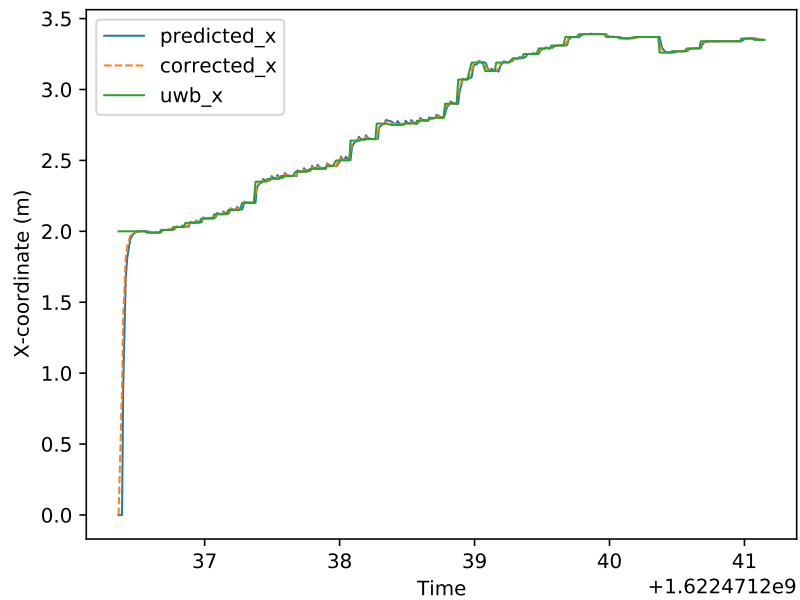

Figure 2: Plot from script *kfMergePlot.py*
1. let the robot move forward 1m, as shown in Figure 2 and 3